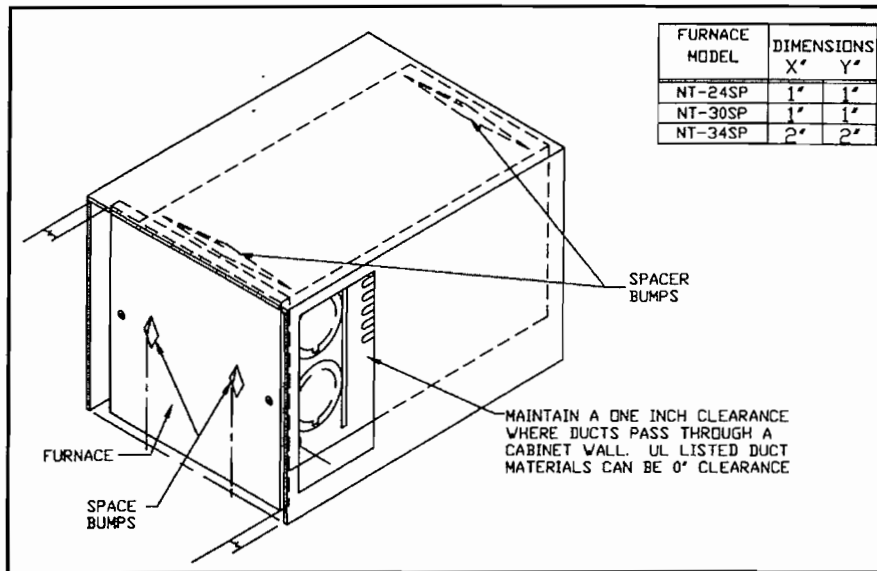

Figure 3
COMBUSTIBLE MATERIAL - 1" (See Figure 3)
5. Maintain a minimum of 1" clearance where ducts pass through any combustible construction such as, coach cabinetry. (See Figure 3.) NOTE: UL listed duct materials can be "0" clearance.